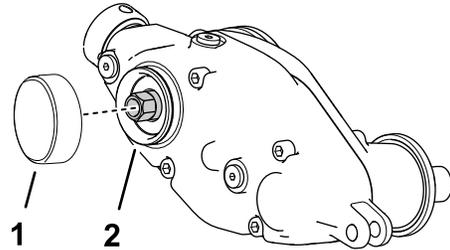

Figure 14
1. Apply medium-strength, cylindrical-bonding retaining compound (such as Green Loctite 609®) around the snap ring groove and the outer diameter surface (Figure 14).
2. Install the cap as shown in Figure 14.